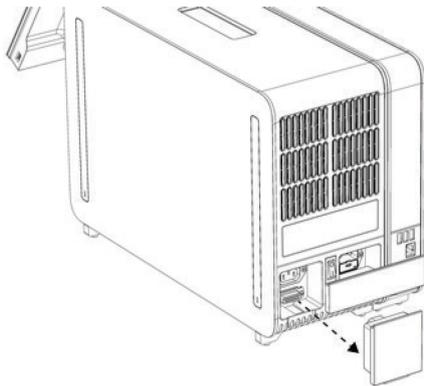

Figure 12. Removing the Termination Bridge.
- 1d. Remove the Termination Bridge from the back of the Analytical Module (Figure 12, next page).